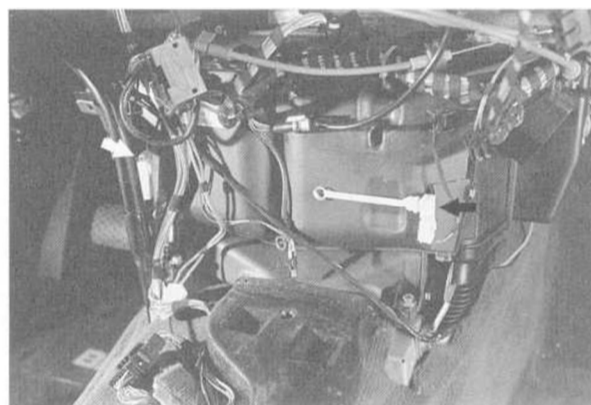

Fig. 13. Left and right heater core temperature sensors (arrows). Right side sensor shown removed.
2. Disconnect harness connector from sensor and carefully pry out sensor from heater core housing. See Fig. 13.